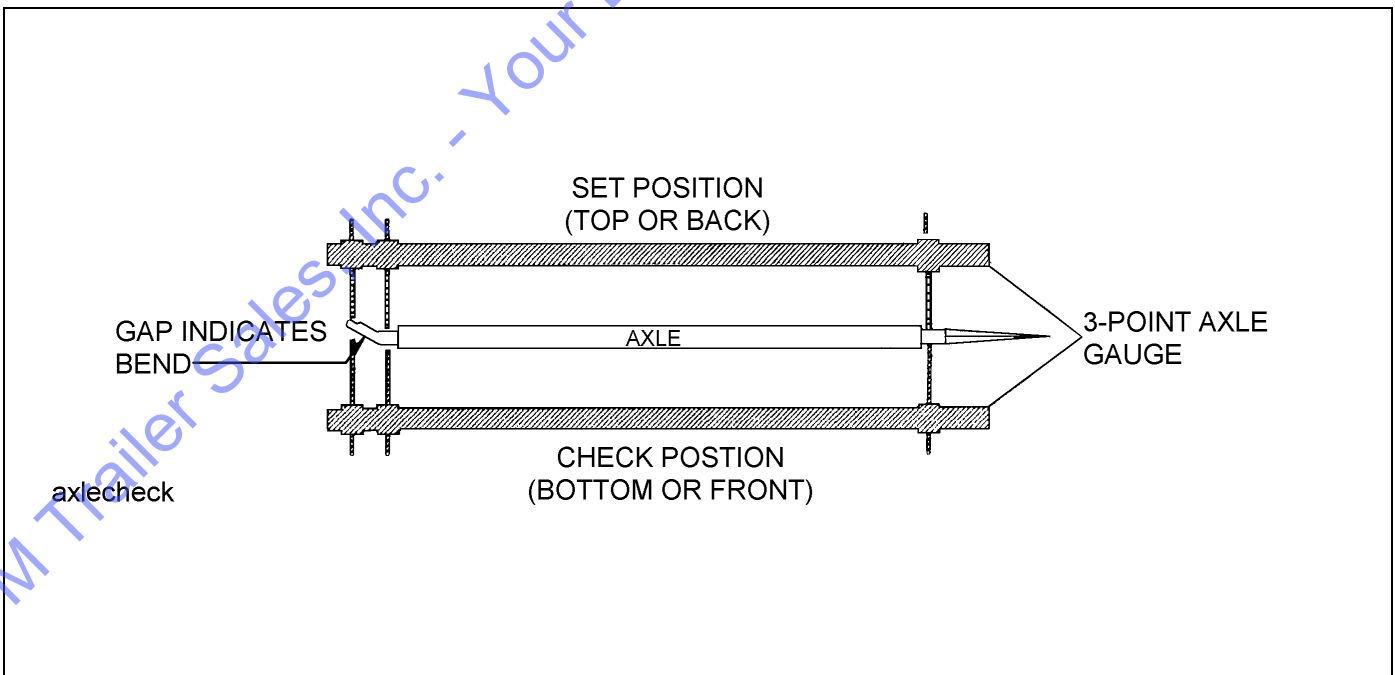

Figure 4-6: Checking Axle for Bend
2. Place a 3-point axle gauge against the front side of the axle, and adjust each axle gauge point to the axle. (Double point end against the inner and outer wheel bearing surfaces of the spindle being checked and the other point on the inner bearing surface on the other spindle.) (See Figure 4-6.)